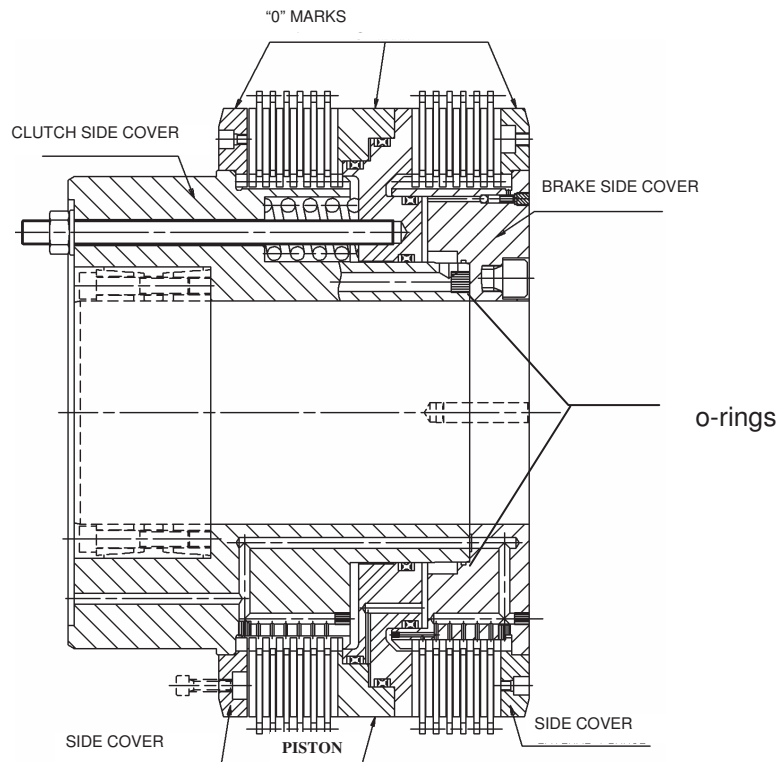

Fig. 13
2. Assembly the threaded bars (see table 3 for lengths) in the piston, through the clutch side hub holes. Then introduce the nuts with washers as indicated in figure 13.
3. Verify that both side covers (see Fig. 13) and the piston have a mark "0" in its surface in order to keep the original position for assembly.
5. Fit the inner discs and the outer discs in the brake hub and verify that the o-rings are in their placement (see Fig. 13).